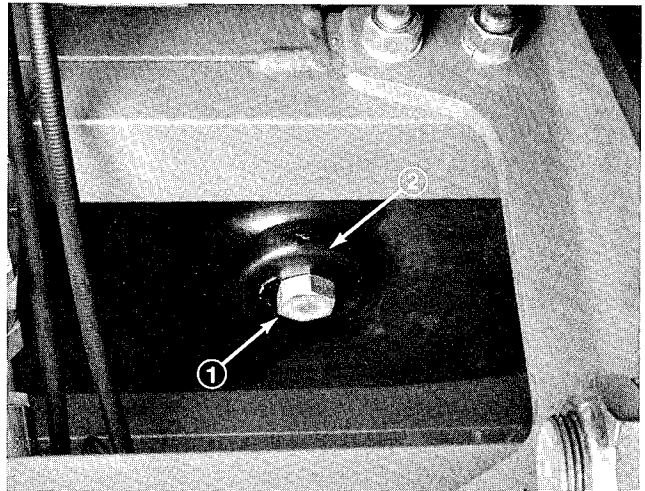

Figure 48
2. Locate plugs at right rear behind front wheel, at rear center and front center of reservoir (Fig. 48).
1. Place drain pan under reservoir. In turn, remove all three (3) drain plugs and let oil drain into pan (Fig. 48).